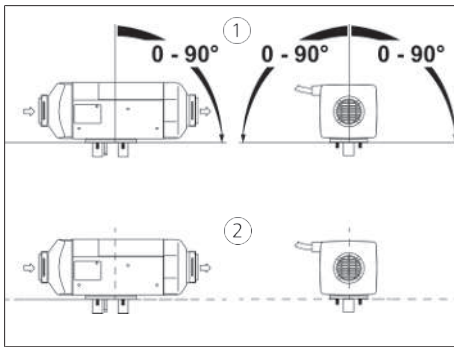

Fig. 3 Permissible installation position for petrol and diesel
- ✓ Ensure the correct installation position. See Fig. 3.